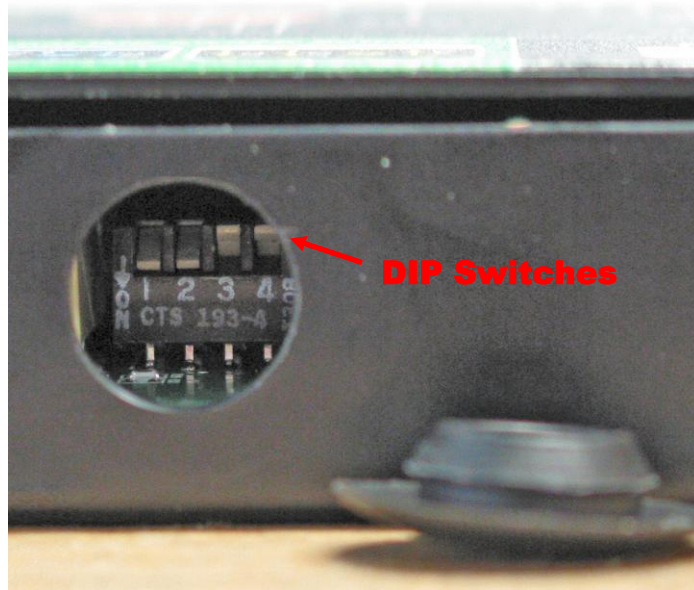

Figure 6 – DIP Switch Location
Internal DIP switches on the Flexi-Mux control whether it switches 2 or 4 wires each time it is clocked. To change the DIP switch settings, remove the dust cover located on the base of the unit. The piano-key style DIP switches are accessed through this hole as shown in Figure 6. Adjust the DIP switches as outlined below. There is also a diagram on the Flexi-Mux itself which reflects these settings (item 6, Figure 2).